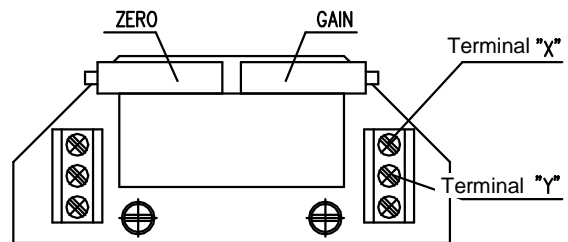

Fig. 8
3.4.2 EPV – 3-wire version (Fig. 8,8a)
- Adjust the resistive transmitter according to the previous chapter. The resistance is to be metered on the terminals X-Y (Fig. 8,8a). The used transmitter resistance is 2000 W or 100 W.